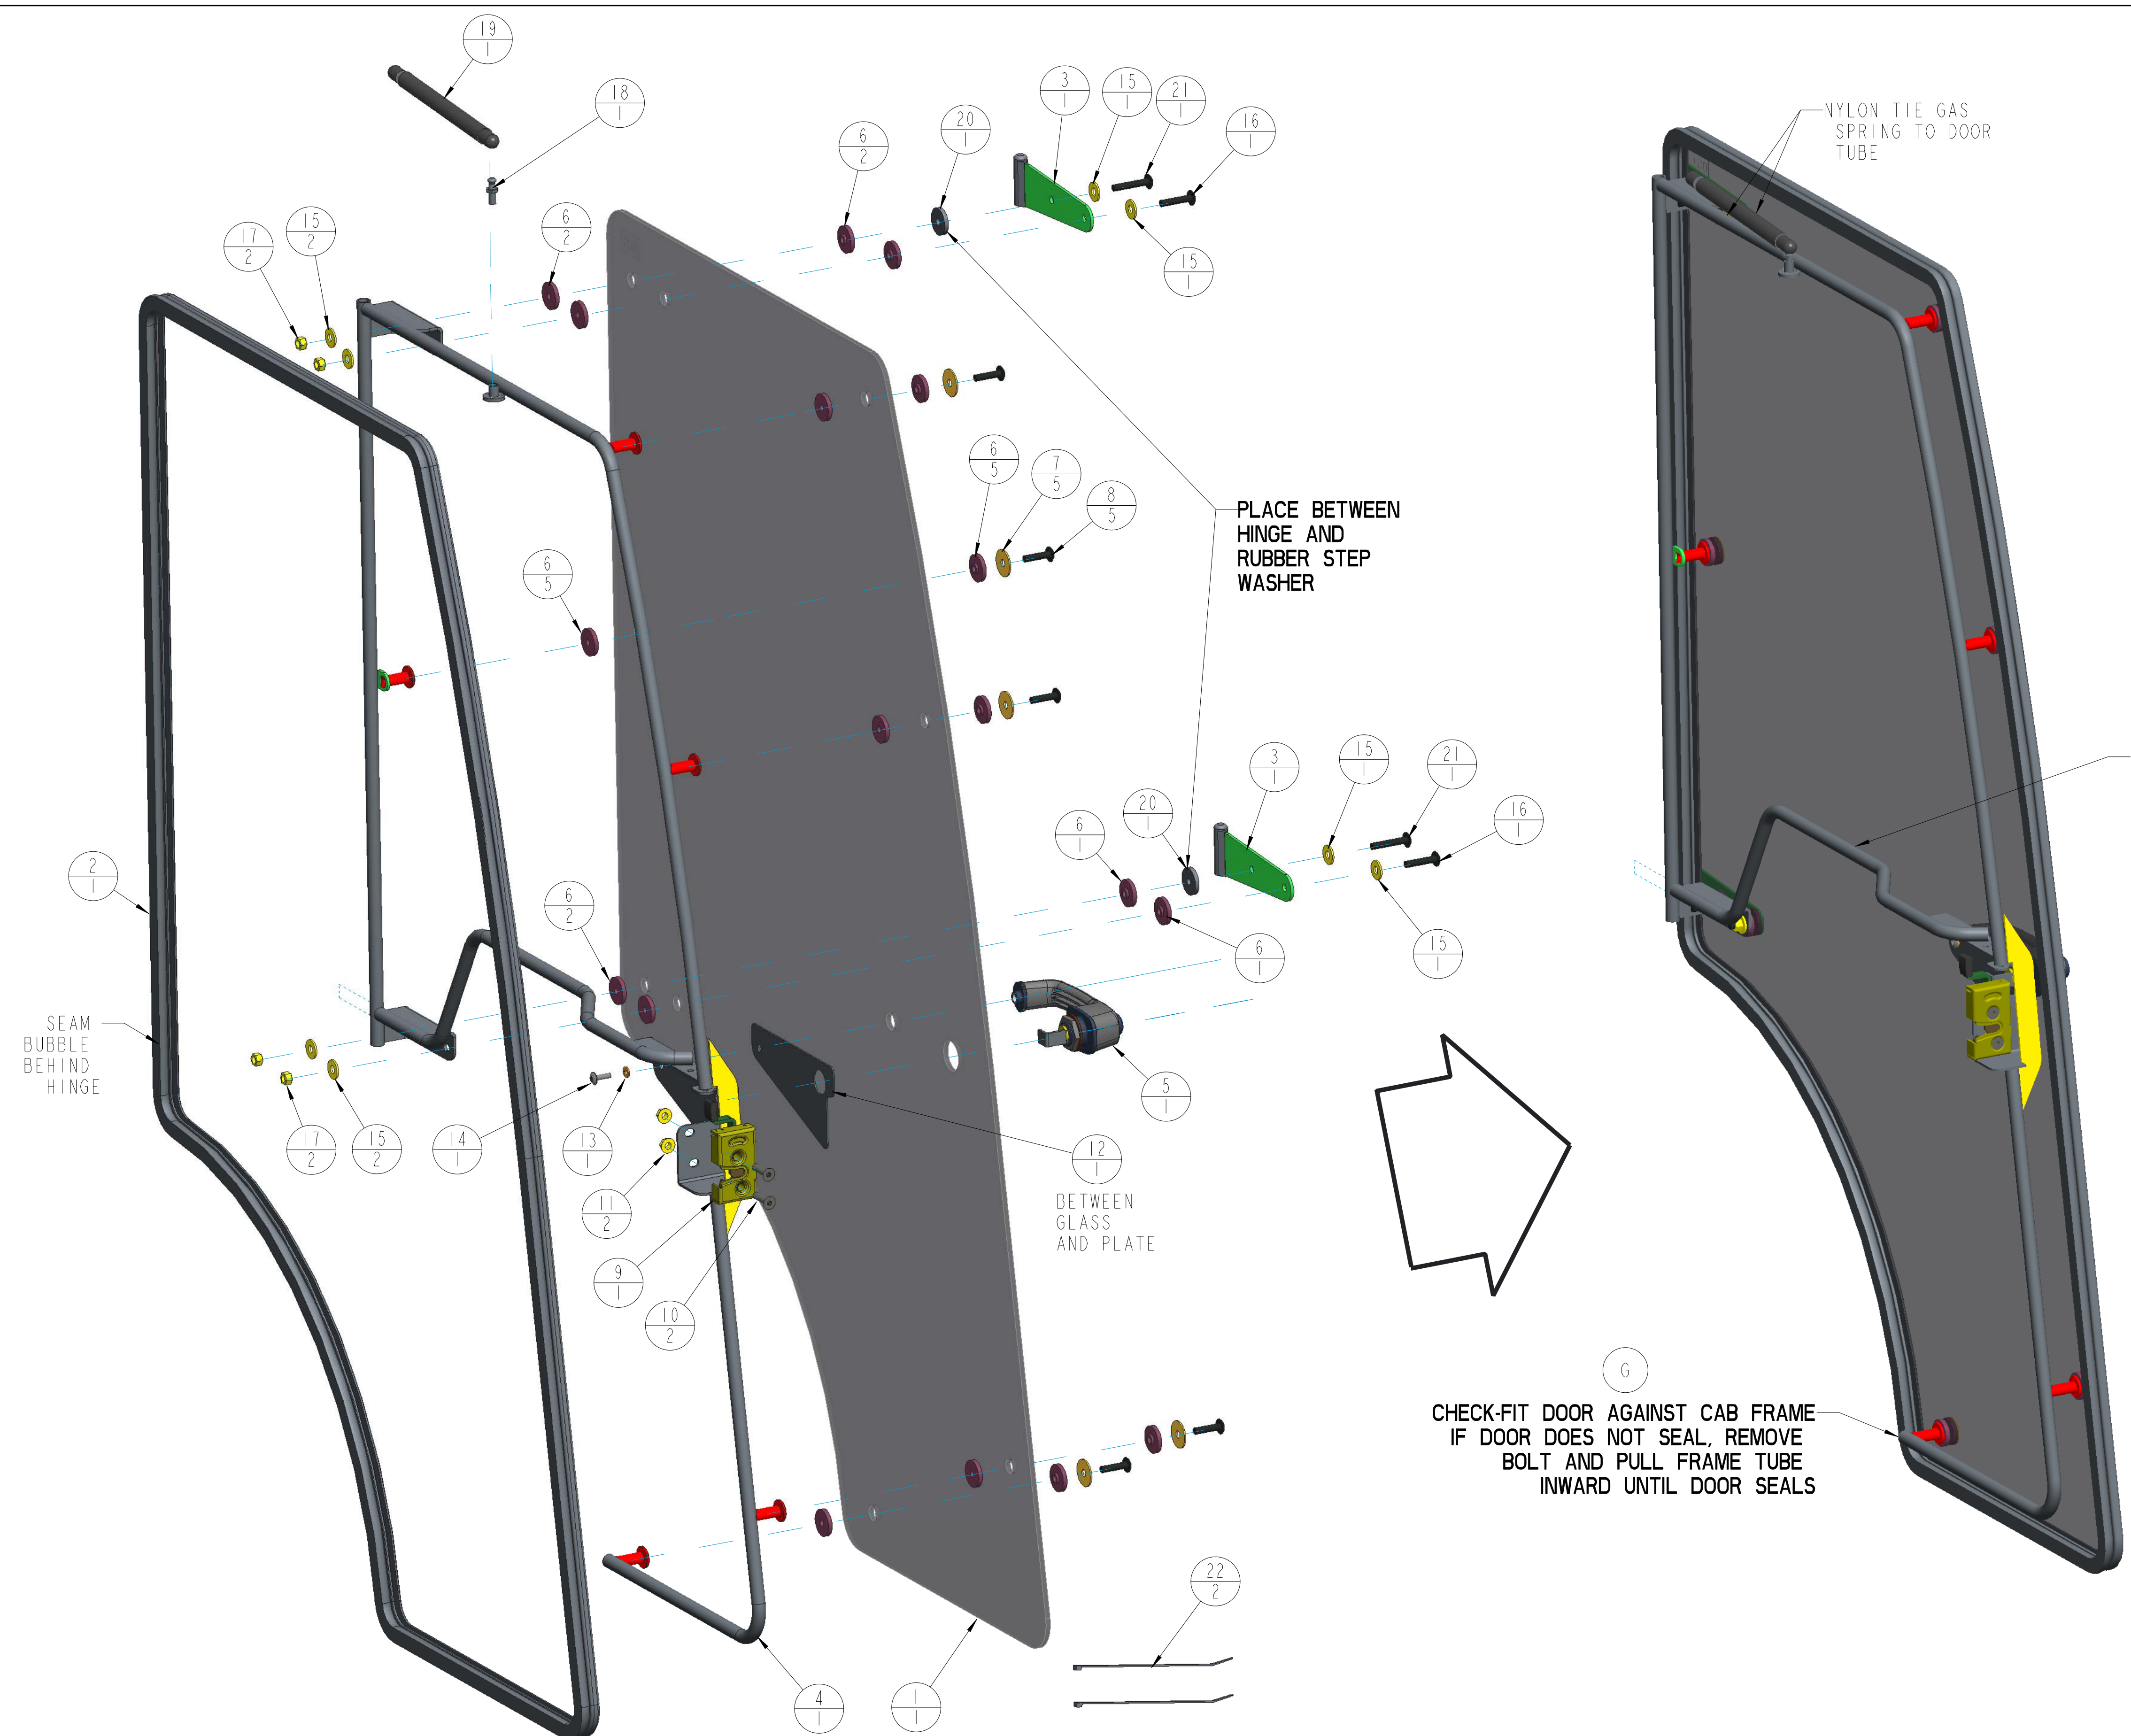

Figure 3
5. Install striker stud (6) and jam nut (7) to each LH and RH side frame striker mount (**Figure 3**).
7. Install ball stud (11) into each side header of cab (**Figure 3**).
8. Remove nylon tie that secures gas spring to door frame tube (**Figure 3**).
9. Connect gas spring end to ball stud (**Figure 3**).